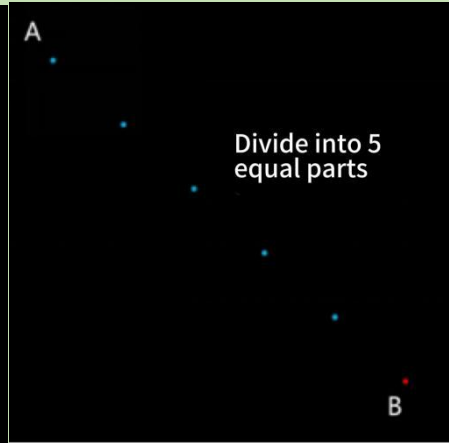

Figure4-40
- (2)Place the cursor on the end point B and press the number key. ( Figure4-40 )